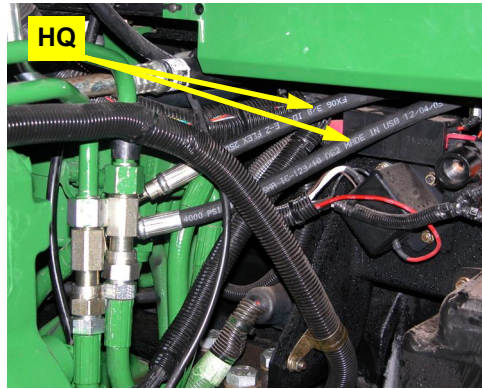

Figure 4a: Routing the steering output hoses from the run-tees to the steering block
- a. Route the hydraulic steering output hoses **HQ** from the run-tees, under the tractor cab (Figure 4a), then along the left side of the tractor and back to the hydraulic steering block.